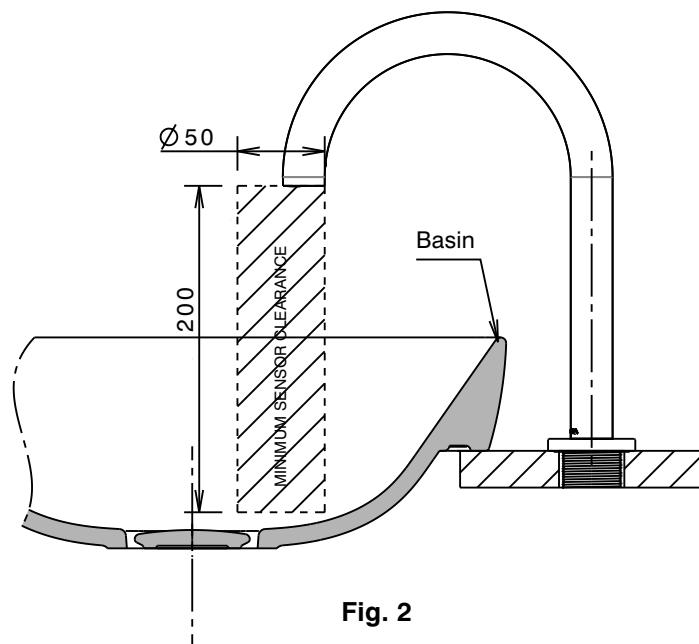

Fig. 2
- * Before drilling the mounting hole in the bench for the tap ensure there is nothing interfering with the sensor clearance area as shown in Fig. 2.